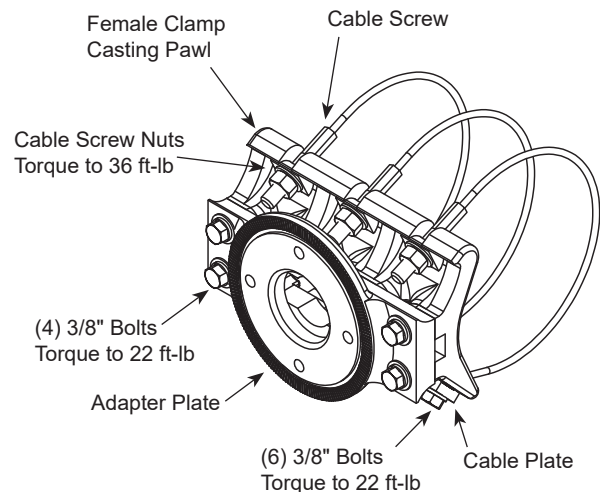

Figure 2
5. Place the cable screw assemblies in the casting pawls of the female clamp as shown. (Figure 2)
7. Torque the (6) 3/8" cable plate bolts to 22 ft-lb. DO NOT OVERTIGHTEN.
11. Place the free ends of the cables in the slots provided on the clamp body and position the adapter plate on the clamp making sure the cables are not pinched between the clamp and adapter body. Install the (4) 3/8" hex head bolts, flat washers, and lock washers and torque to 22 ft-lb. DO NOT OVERTIGHTEN.